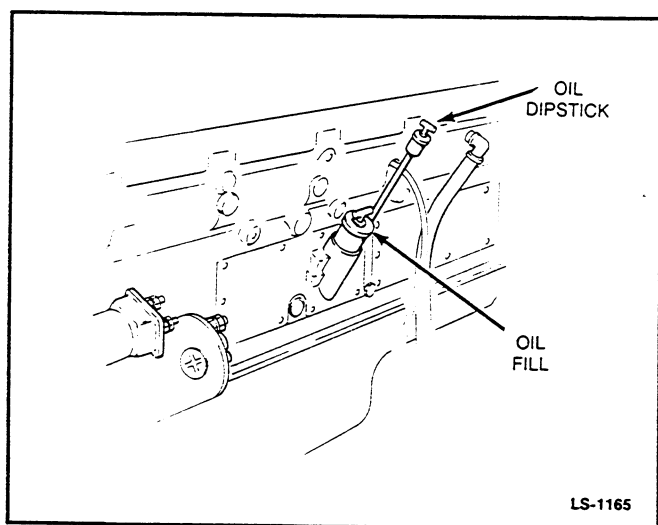

FIGURE 6-3. OIL FILL AND DIPSTICK LOCATION
2. Fill crankcase to "L" (low) mark on dipstick (see Figure 6-3) and refer to *Maintenance—Lubrication System* section.